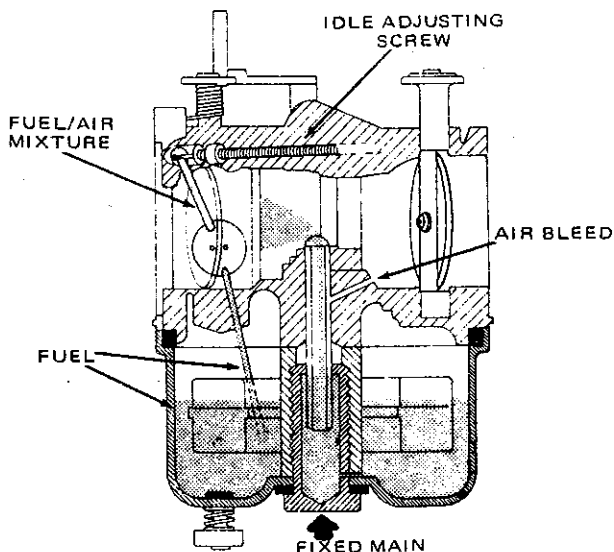

Figure 25
- e. Carburetors with fixed main jet are serviced in much the same manner as models with a main adjustment screw. The fixed main orifice (passage) is located in the bowl nut. (See Figures 25 and 26.) Install new bowl nut and washer if damaged.